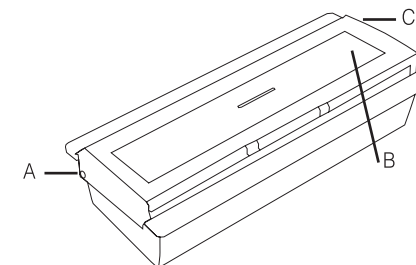

Figure 1: Doorbell-pushbutton
- a) Place the doorbell pushbutton in such a way on the work surface that the two rotation axes of the transparent plastic face are at the rear (fig. 1 A and C).
- b) Using a pointed object (e.g. biro) carefully press now the small pin on the left side (fig. 1 A).
- c) Now you should be able to push up and remove the transparent plastic face (fig. 1 A).
- d) You can now open the small screw (fig. 1 B) using a small Phillips screwdriver and remove the front of the doorbell pushbutton behind which there is the PCB with the battery.
- b) Before assembling ensure that the small screw (fig. 1 B) can grip at the right spot. If required turn one part of the housing by 180°. Please make sure that the rubber gasket sits correctly within the housing.